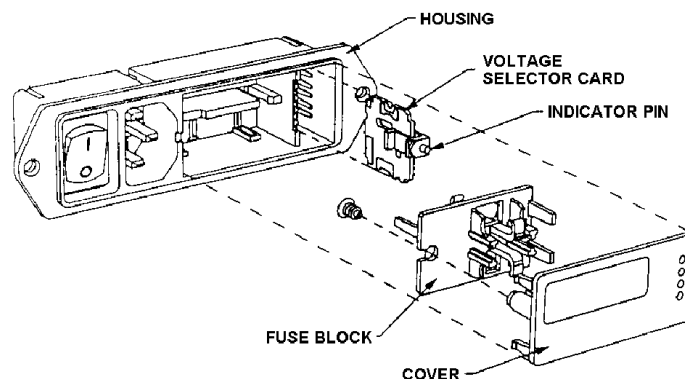

Figure 2. Schematic diagram of cover/fuse block assembly.
3. Grasp the voltage selector card (not the indicator pin which is attached to it) using needle nose pliers and remove it from the housing (Figure 2).